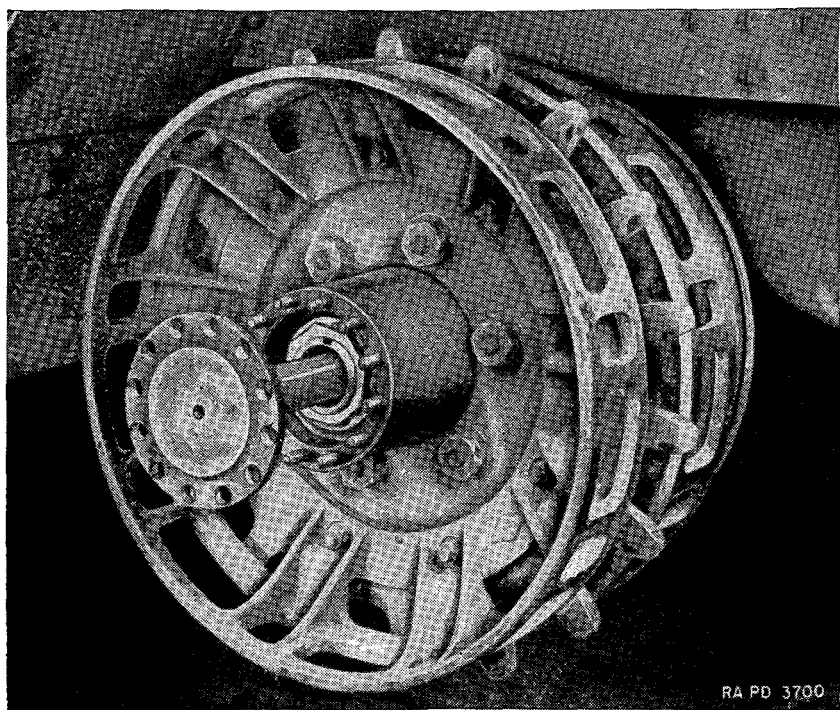

FIGURE 47.—Rear axle drive shaft removal.
(1) Remove sprocket assemblies. Follow steps in *a* through *c*, paragraph 20.
(2) Remove drive shaft and flange assemblies— $\frac{5}{8}$ -inch socket wrench, hammer, pry bar. Take off twelve  $\frac{7}{16}$ -inch drive flange nuts (BBBX1D) and lock washers (BECX1L). Use puller screws in flange, tap flange in center with hammer to loosen, and pull out shaft (C85643) with aid of pry bar (fig. 47).